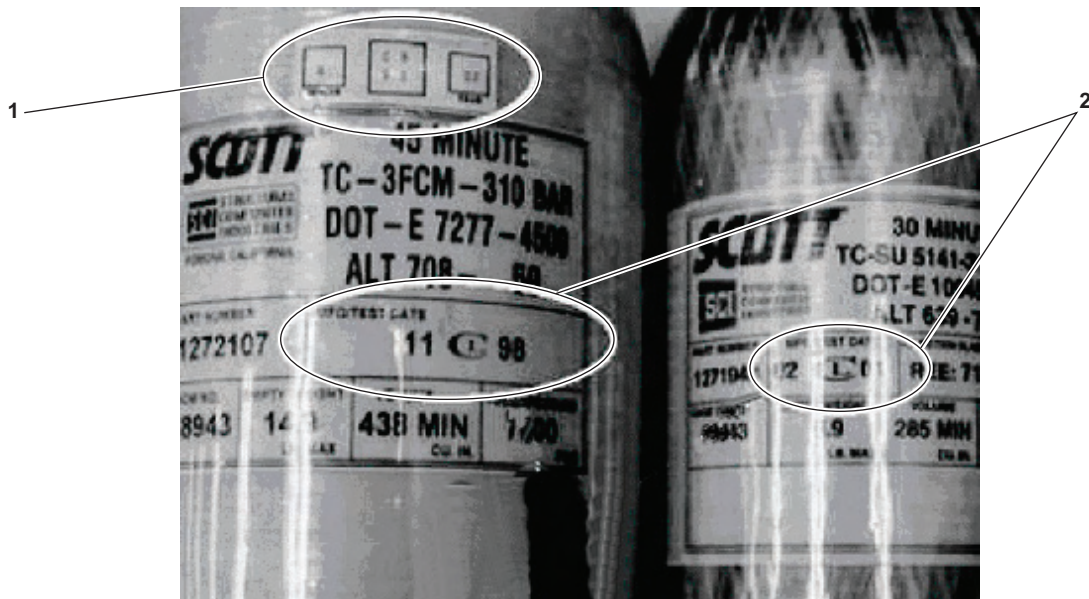

Figure 4-1. Hydrostatic Test Dates
Check for the latest hydrostatic test date (figure 4-1, item 1). If no label is affixed as shown, verify that the original hydrostatic test date (figure 4-1, item 2) is current.